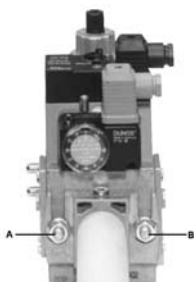
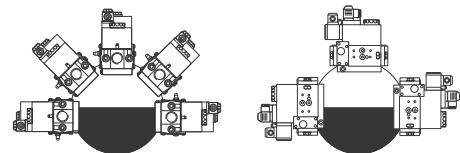

Fig. 11
Fig. 14
3. tighten screws A, B, C and D (Fig. 11 - Fig. 12), according to the mounting positions (Fig. 14);